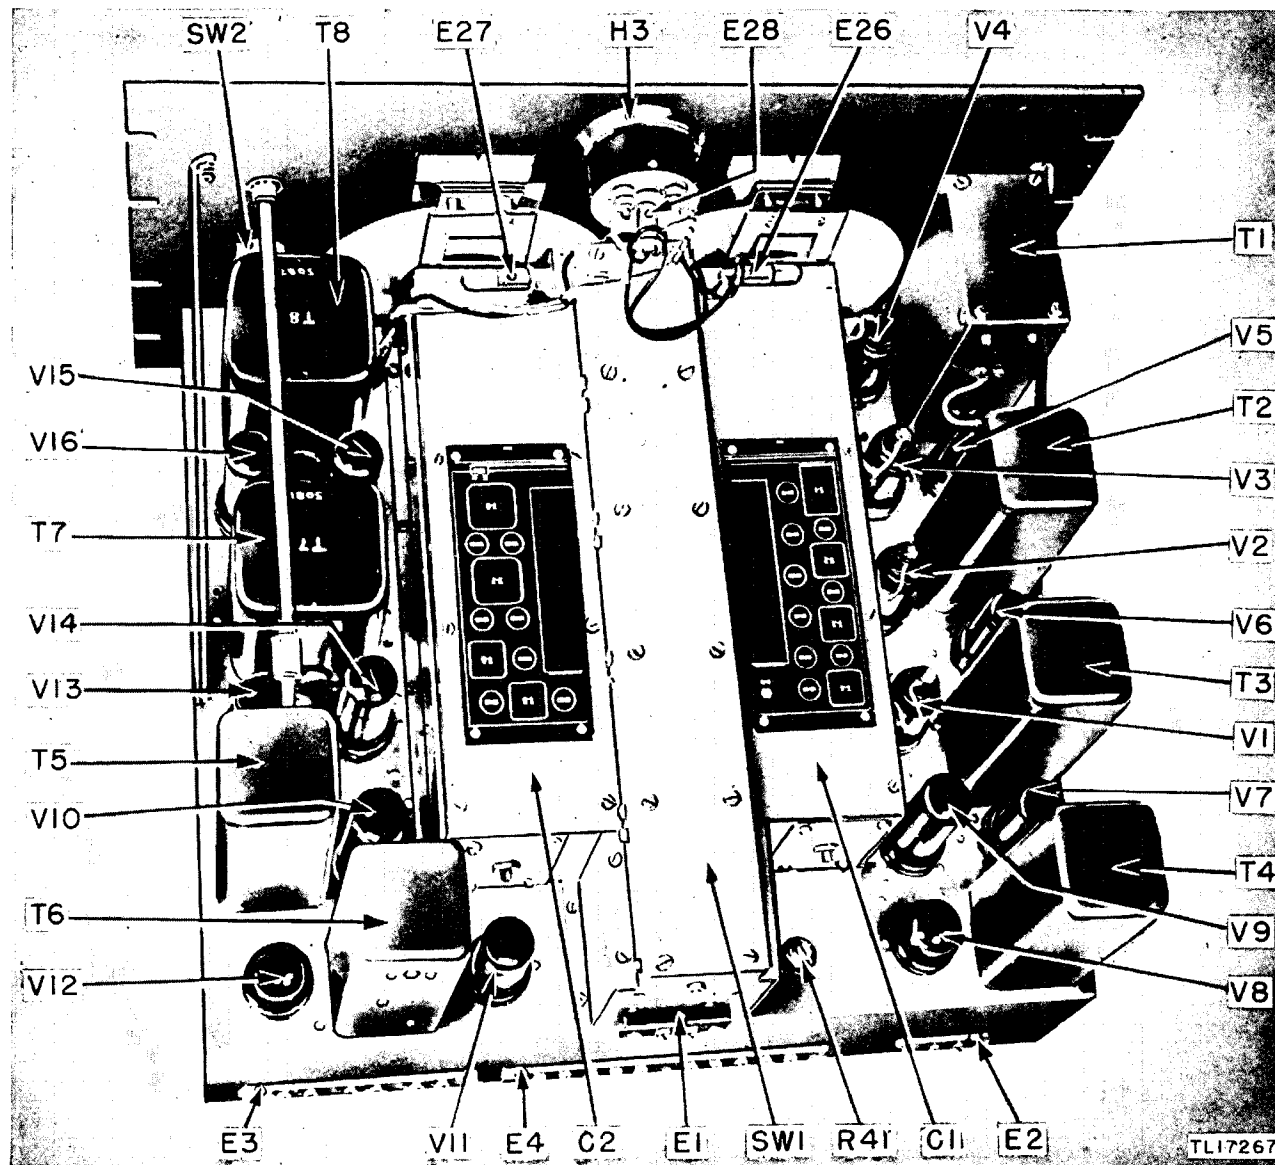

Figure 4. Top view of chassis.
#### 9. Removal of Tubes and Pilot Lights (fig. 4)
The dial lights (I1 and I2) are 6- to 8-v, 0.15-amp miniature screw base lights, and can be seen mounted in their sockets directly behind the tuning dials. The meter light (I3) is a 6- to 8-v, 0.15-amp miniature bayonet base type and is mounted into the S-meter. (See fig. 4 for placement of tubes.)
To provide smooth motion in moving parts, lubricants are not recommended. Binding posts may be polished or cleaned. The plunger arms in the phasing adjustment, figure 5, may be eased with a light coat of petrolatum, U. S. Army 2-67A. This same procedure may be used on the plunger shafts in transformers T2, T3, and T4, see figure 4.
*d. REPLACEMENT OF TUBES.* When resistance measurement requirements have been properly met, replace the tubes in their proper sockets. See figure 4 or the location diagrams riveted to the top of the tuning unit.